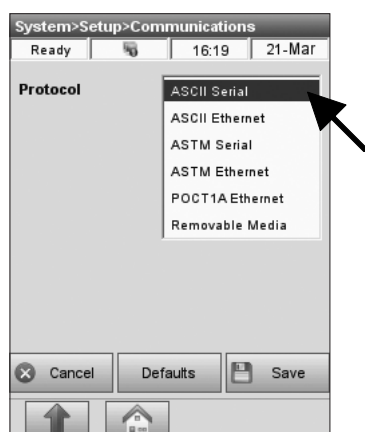

Fig. 3-76 Select Protocol
- In the **<System->Setup->Communications>** screen (Fig. 3-76), you can select the communications **<Protocol>**: